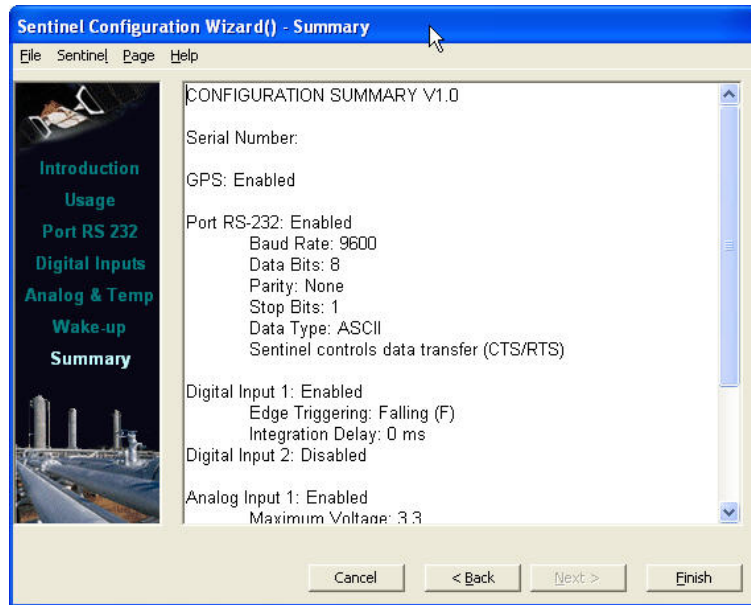

Figure 11– Summary screen
- Setup the configuration as shown in Figure 11: